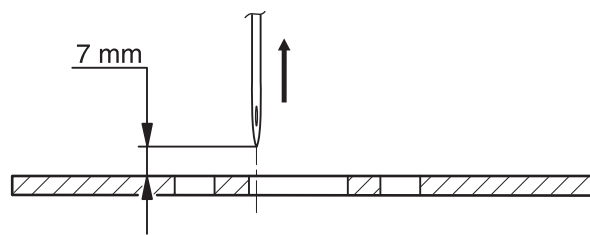

Fig. 15
- Turn the handwheel a full rotation forwards, then keep on turning it until the needle is about 7 mm above the needle plate surface (fig. 15).